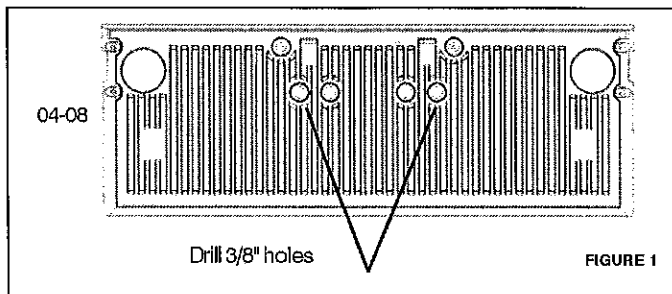

FIGURE 1
Drill two (2) outer holes (Figure 1) for 04-08 MY. Drill two (2) inner holes for 09+ MY. (Figure 2)